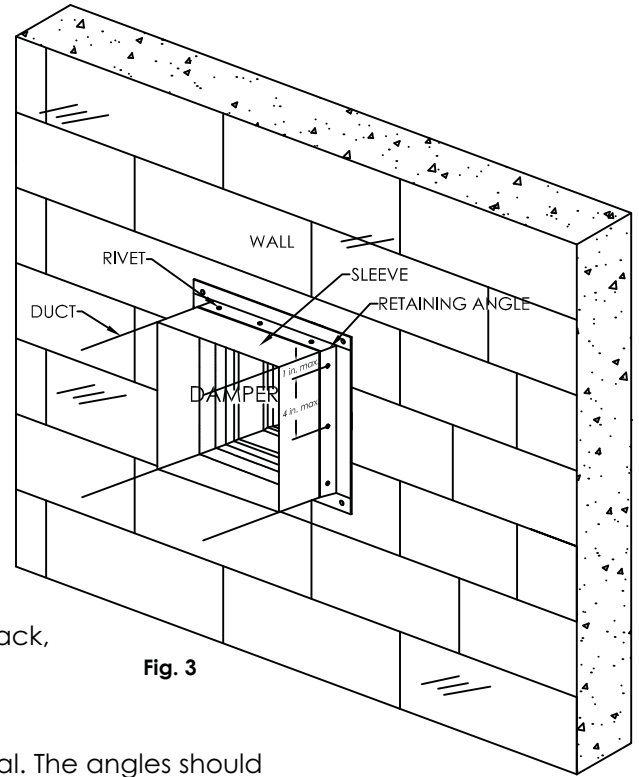

Fig. 3
- Retaining angles for 1 ½ hour rated dampers with a height 36 in. (914 mm) or less must be a minimum of 16 ga. (1.5 mm). The leg of the retaining angle on the damper sleeve shall be a minimum of 2 in. (51mm). The leg of the retaining angle on the wall shall be long enough to cover the annular space and overlap the wall by a minimum of 1 in. (25mm). (See Figure 3). Retaining angle legs may be reversed with leg of retaining angle with annular space of opening so angle and sleeve is flush against barrier.